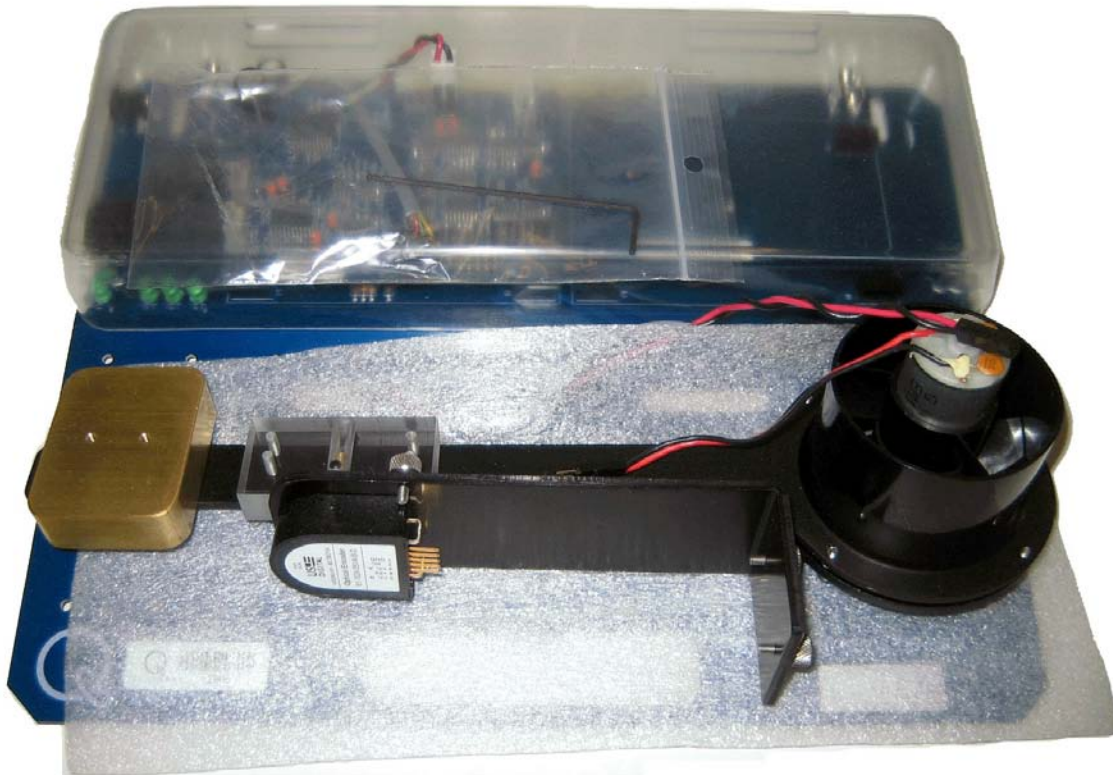

Figure 32: Disassembled VTOL.
1. The VTOL trainer is shipped as shown Figure 32.